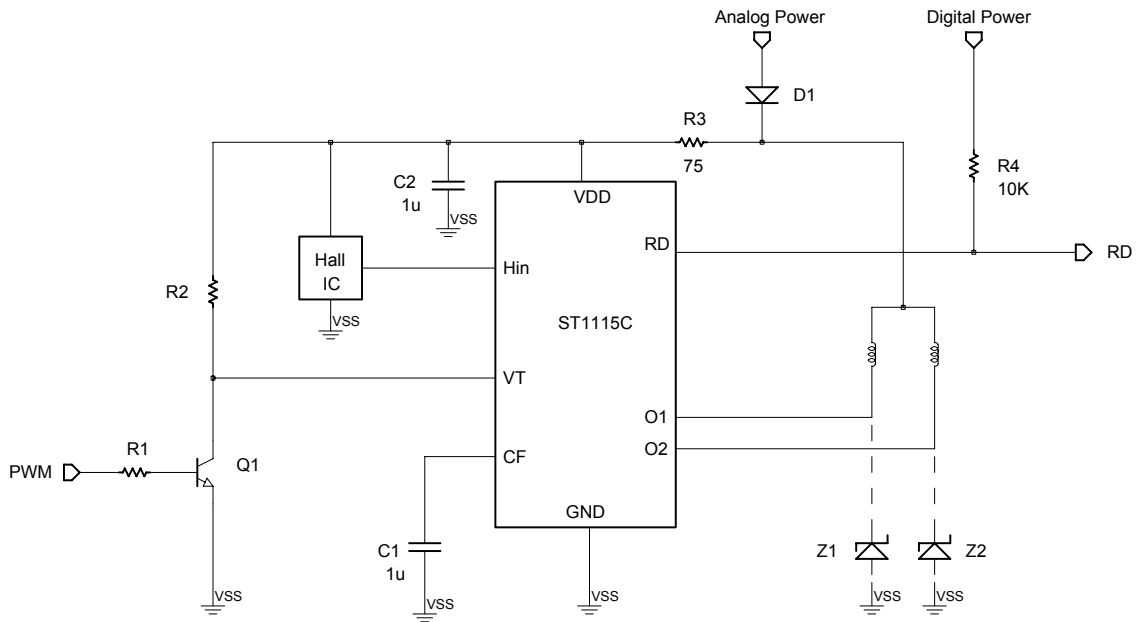

Figure 5. Fan speed control via the PWM command.
3. Fan speed control by the PWM command —Refer to Figure 5.
- (1) Figure 5 shows the application circuit, where the fan speed is directly controlled by the PWM command. The BJT Q1 together with resistors R1 and R2 constitutes an inverting level shifter, which is responsible for translating the voltage level of the PWM command to the VDD voltage level of the drive IC. In this way, the voltage level of the PWM command can be very low, say, 2 Volt, for example.
- (2) For this circuit, the PWM command is active high and its frequency range is 200 Hz ~ 40 KHz. If low acoustic noise is desired, the 20 KHz~40 KHz of the PWM frequency range is recommended.